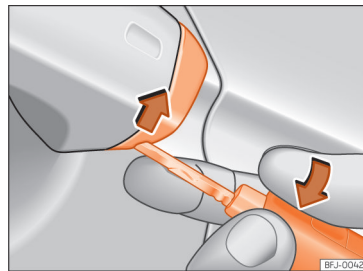

Fig. 95 Driver door handle: lever the cover off
- Insert the key shaft into the lower opening in the cover on the driver door handle » Fig. 95 then remove the cover upwards.